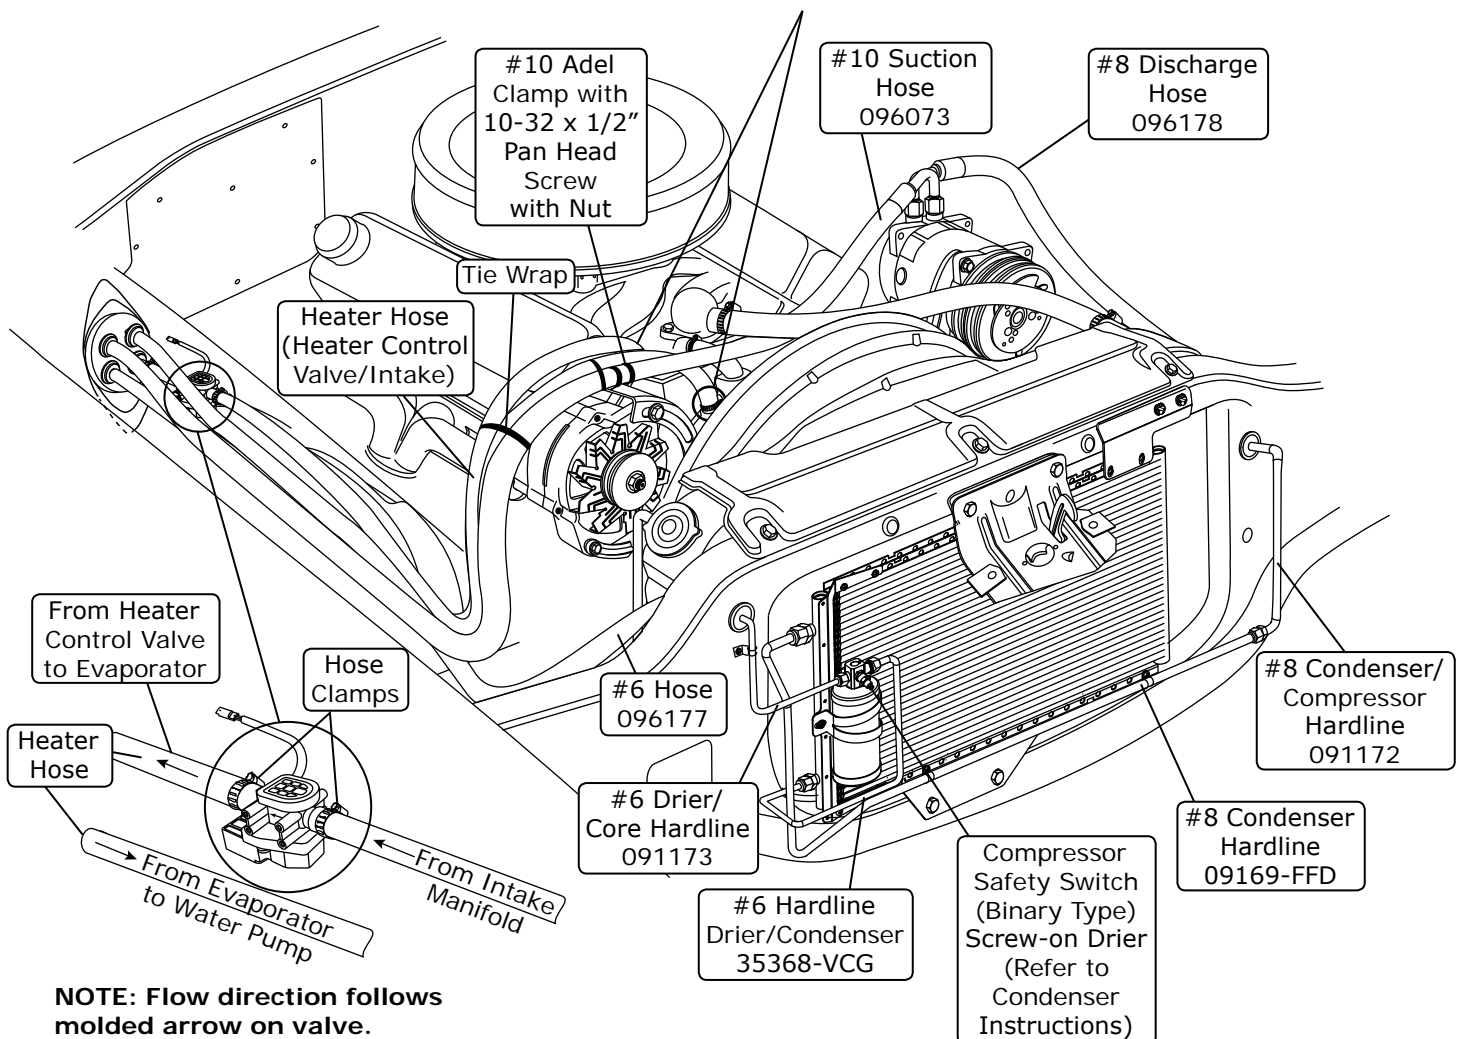

Figure 1
1. Route a piece of heater hose from the water pump to the top heater fitting of the heater core as shown in Figure 4, Page 15, and Figure 1, below. Secure using hose clamps.
2. Route a piece of heater hose from the intake to the bottom heater fitting of the heater core as shown in Figure 4, Page 15, and Figure 1, below. **NOTE: Install heater control valve in line with intake manifold (pressure side) heater hose. Secure using hose clamps as shown in Figure 1, below. Also note proper flow direction.**